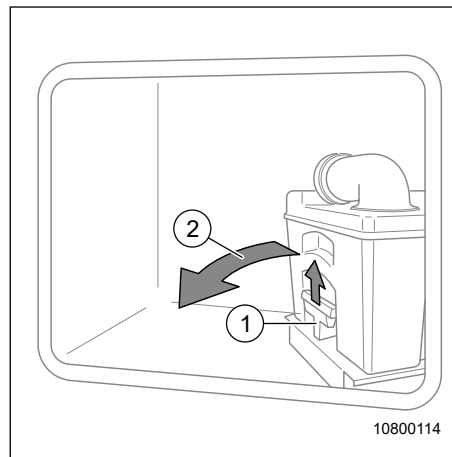

Fig. 70 Removing the cassette
3. Pull the handle on the cassette (Fig. 70, Pos 1) upwards to unlock.
→ Depending on the vehicle, rotate the cassette to the service opening (Fig. 70, Pos. 2).